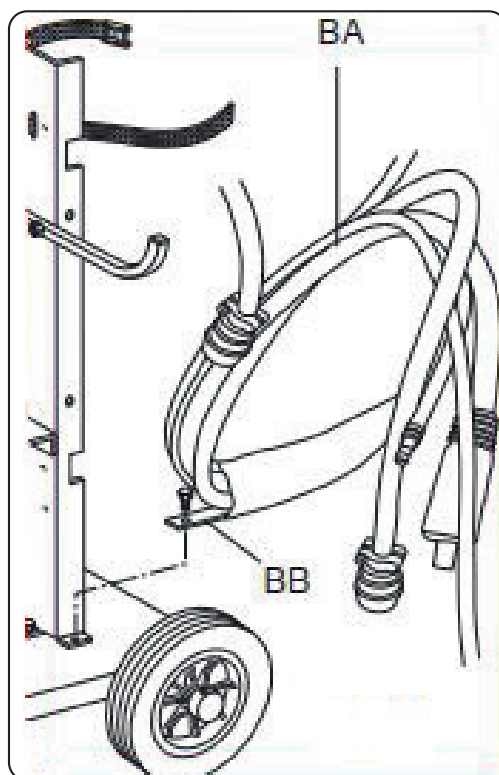

Fig. 3
- ◆ Block one end of connection BA, by fixing the tab BB to the bottom of the machine (see fig. 3).